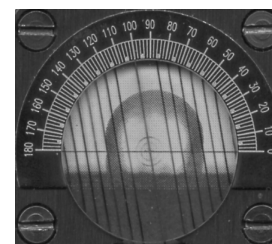

Figure 2.10
- Turn the protractor until the grid lines are parallel to the tangent at the point of reflection. Slide the specimen stage slightly sideways until the point of reflection matches a grid line (Figure 2.10).